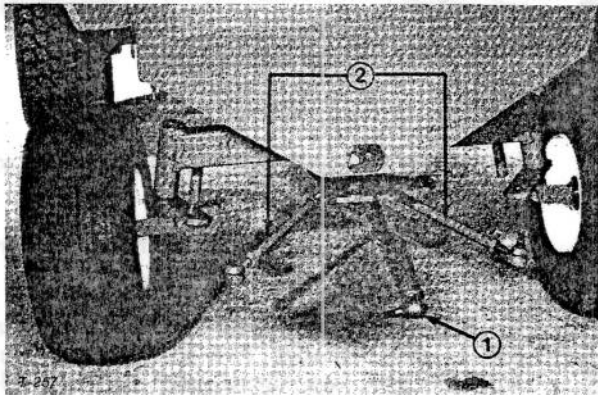

Figure 55
1. Remove cotter pin and slotted nut from tie rod end connecting steering tube to steering plate. Separate tie rod end from steering plate bracket (Fig. 55).
2. Remove cotter pins and slotted nuts from tie rod ends connecting tie rods to wheel spindle brackets. Separate tie rod ends from both spindle brackets (Fig. 55).